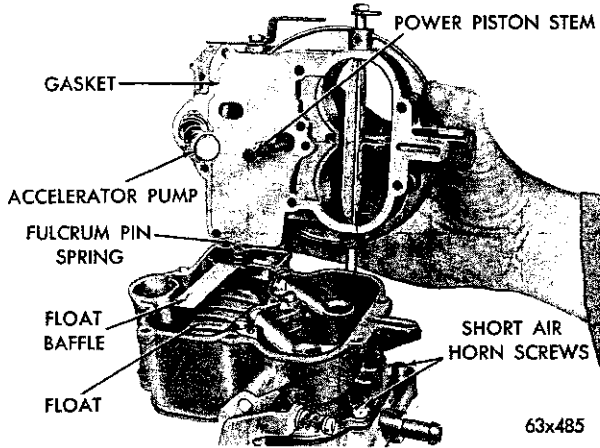

Fig. 3—Removing or Installing the Air Horn
(1) Install four elevating legs, Tool T109-287S, in the mounting flange holes in the throttle body. These legs are used to protect the throttle valves from damage and to provide a suitable base for working.
(2) Remove the hairpin clip that holds the pump rod in the center slot of the pump arm. Remove rod from slot and disengage from the throttle lever.
(3) Remove the hairpin clip that hold the fast idle rod in the fast idle cam. Disengage rod from cam, then rotate rod to disengage from choke lever.
(4) Remove the three short air horn attaching screws, then remove the two long air horn attaching screws next to the choke piston. Install two short screws through the main body into the throttle body to hold the bodies together (Fig. 3).
(5) Remove the remaining air horn attaching screws, then lift air horn straight up and away from main body, as shown in Figure 3.